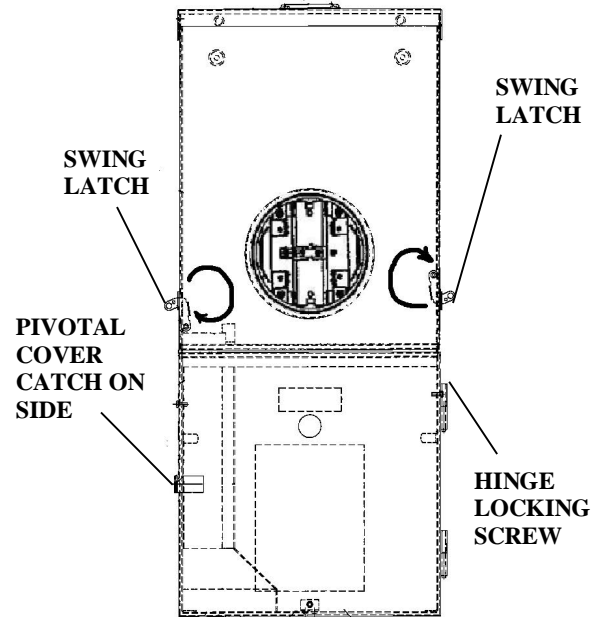

Figure 1
1. Remove front covers (Figure 1)